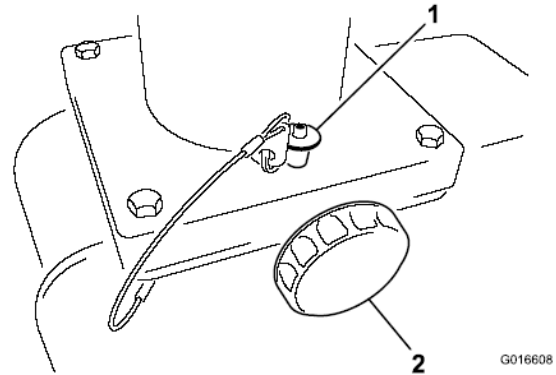

Figure 10
1. To rotate, loosen the clamp knob, then press the spring-loaded button on the locking pin handle IN and pull the locking pin from the chute plate (Figure 10).